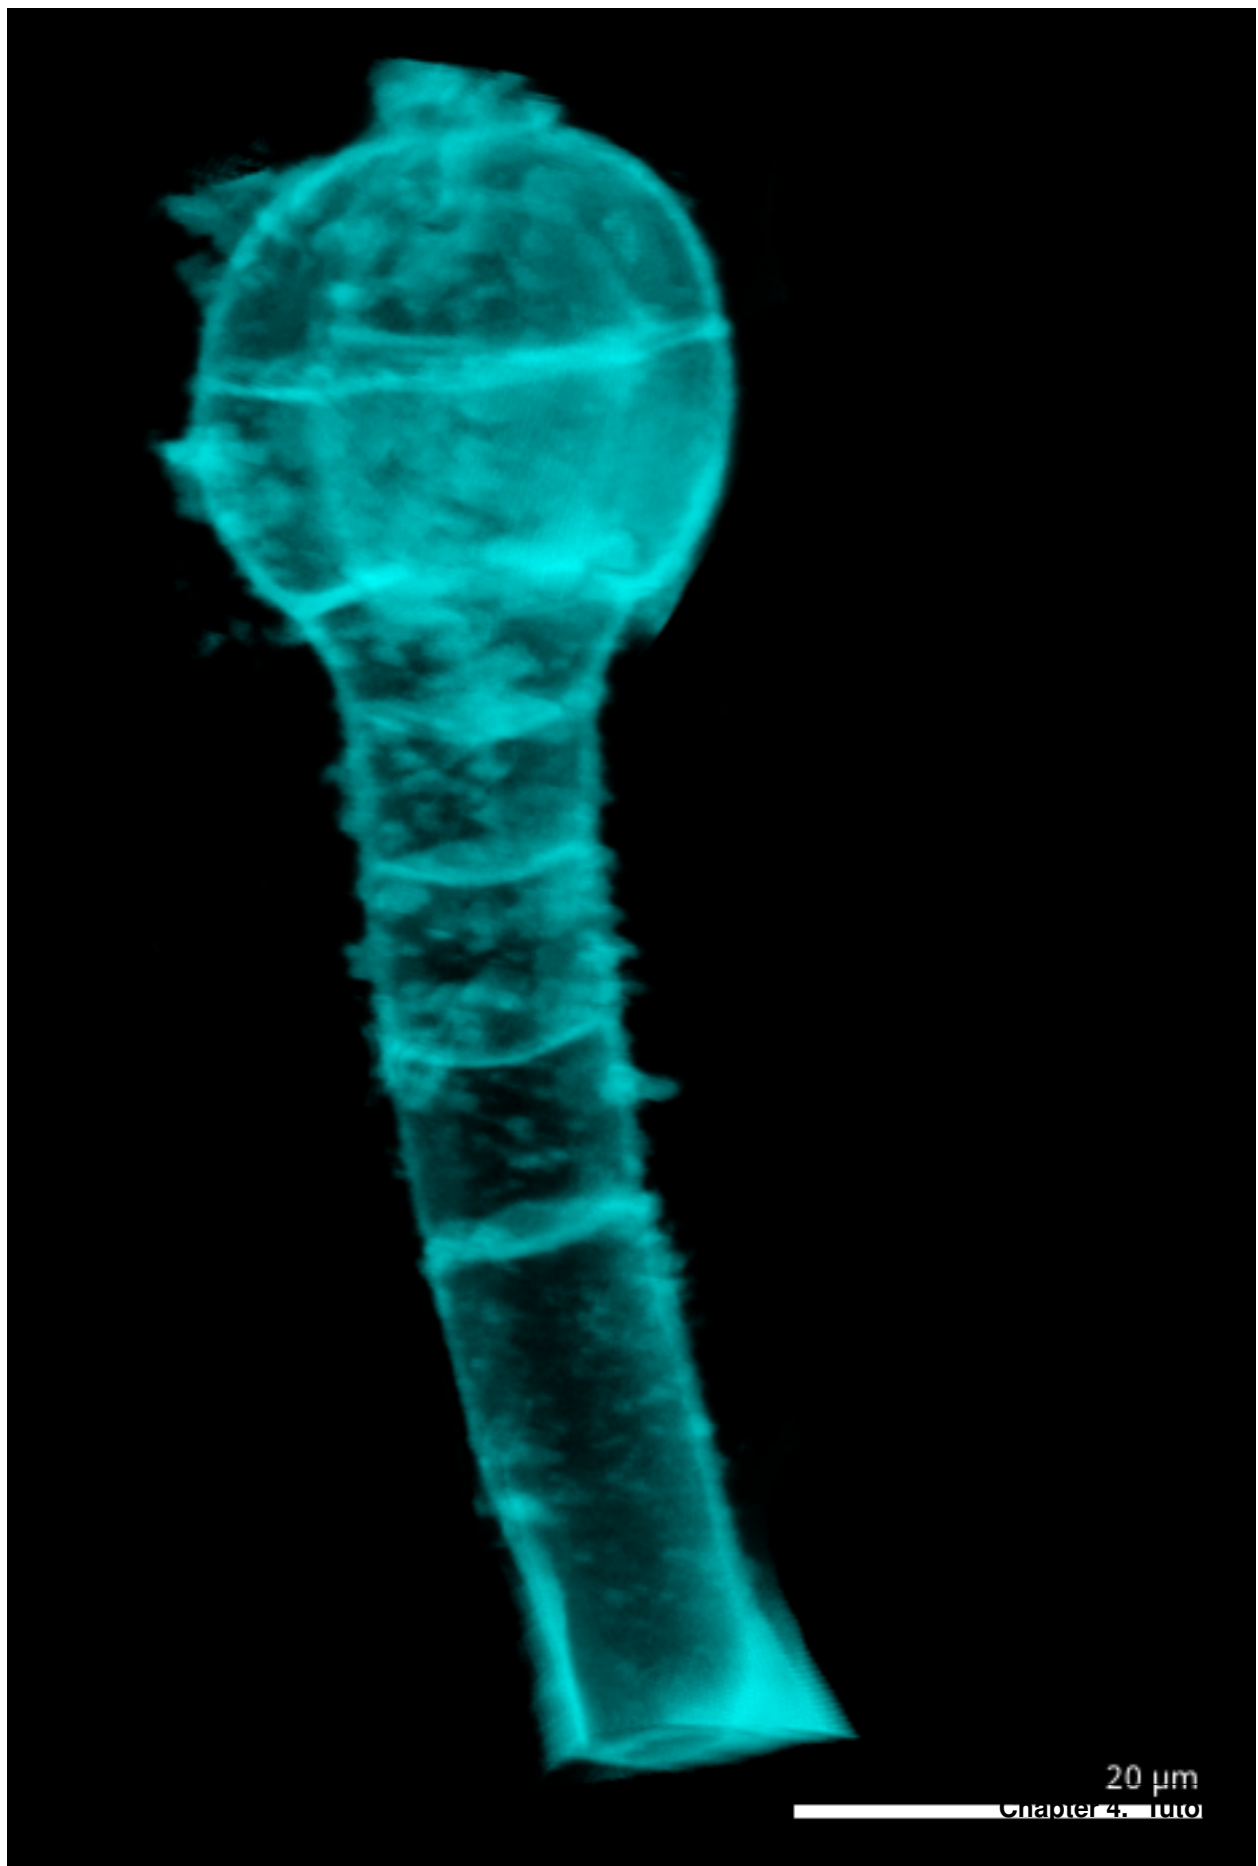

Fig. 4.16: Cleaned stack
4. Remove pixels by pressing the `Alt` key and clicking. All visible pixels within the drawn circle will be erased! After a few minutes of erasing, you should get something like Figure 4.16.